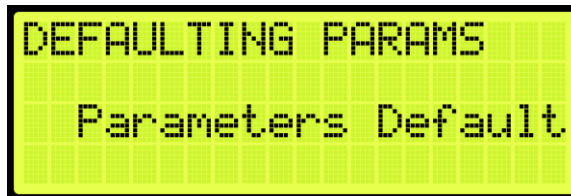

Figure 461: DEFAULTING PARAMS Menu – Parameters Defaulted
- When the system has completed defaulting all parameters, the DEFAULTING PARAMS menu displays Parameters Defaulted (See Figure 461).
6. When the system has completed defaulting all parameters, the DEFAULTING PARAMS menu displays Parameters Defaulted (See Figure 461).